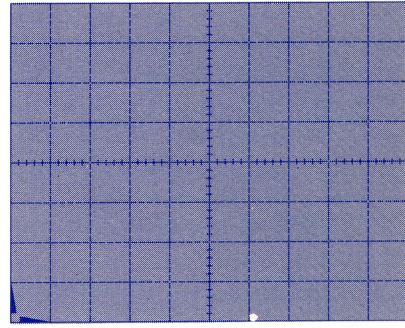

Figure 3-1. Display of emitter reverse current I_{EB20} .
- 2) Apply power to device — Position LEFT-RIGHT switch on 177 to appropriate side. Increase VARIABLE COLLECTOR % supply until horizontal displacement corresponds to specified voltage. [6.0 divs, or 30 V]. See Figures 3-1 and 3-2. **34 8**